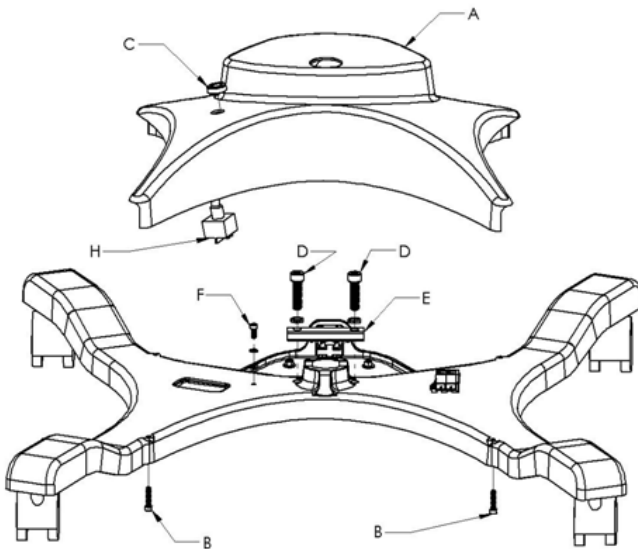

Figure 1.
Parts (Refer to Figure 1)
2. Using a 3mm Allen Key, remove four (4) x M4 screws (B) from underside of base to release the plastic cover. Place screws aside for reassembly. Refer to Figure 1.